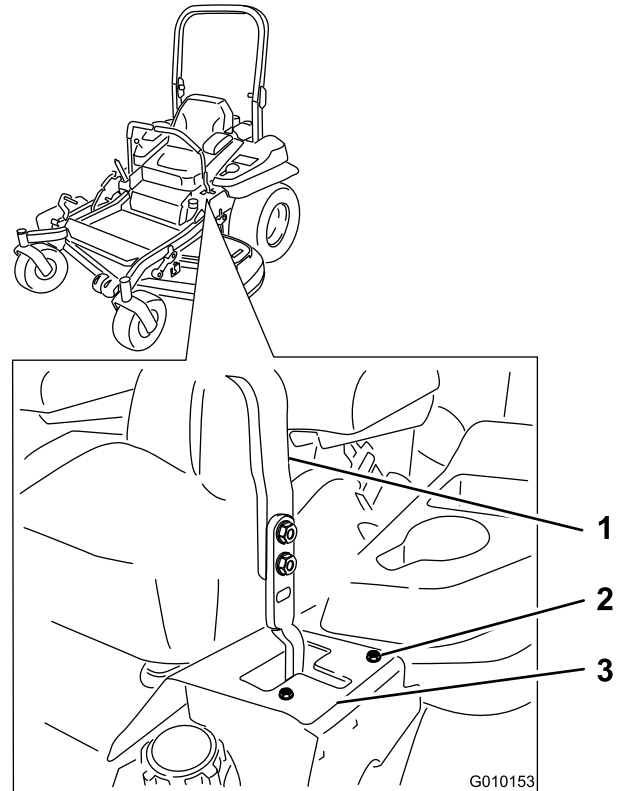

Figure 63
6. If it tracks to the right, loosen the bolts and adjust the left stop plate backward on the left T-slot until the machine tracks straight (Figure 63).
7. If it tracks to the left, loosen the bolts and adjust the right stop plate backward on the right T-slot until the machine tracks straight (Figure 63).
8. Tighten the stop plate (Figure 63).